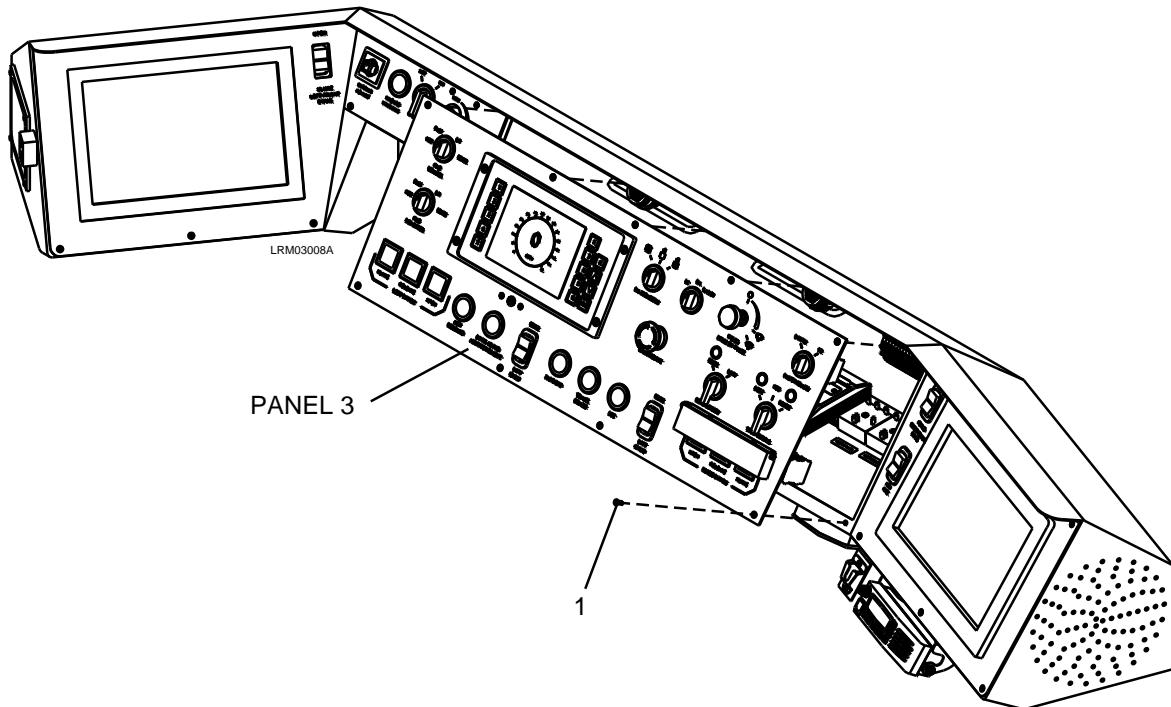

Figure 7-7: Console Panel 3
1. Remove the nine #8-32 flat head screws (1) from the panel. See Figure 7-7.